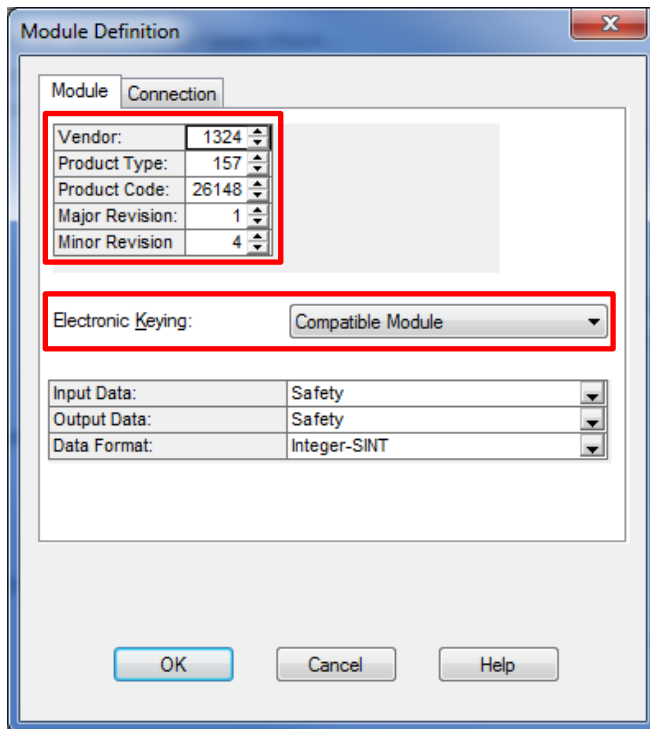

Figure 6
- Sometimes "Electronic Keying" in figure 6 have to be set to "Exact Match" instead of "Compatible Module"